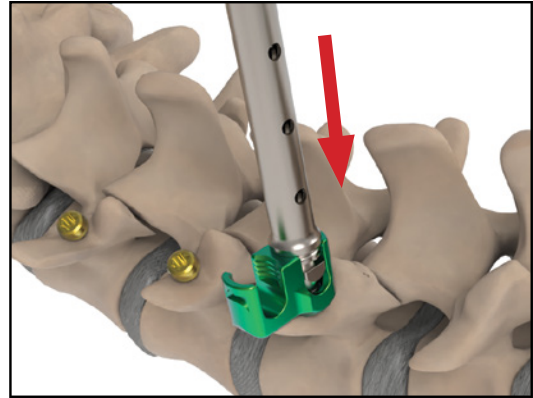

Figure 9.2
2. Slide the Dual Rod Housing onto the Shank by applying a downward force to connect the two components (Figure 9.2). The distal pin of the Housing Inserter will interface with the Housing, allowing the Assembly Tool's proximal grips to move freely.